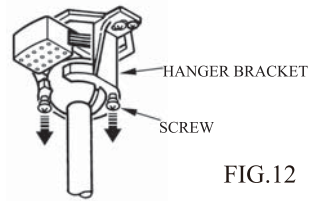

FIG.12
3. Loosen the two canopy mounting screws from the hanger bracket. ( See Fig.12 )